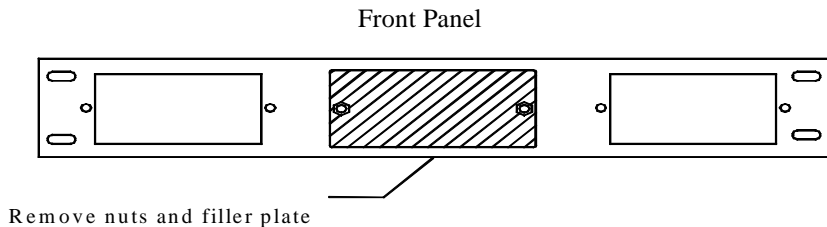

Figure 12. *Filler plate for middle IM-16 slot*
2. If you are replacing an IM-16, skip to the next step. If you are adding a new IM-16, you must first remove the front and rear filler plates from the RIM chassis for the slot where you want to place the IM-16. The filler plate must be removed from inside of the panel. Remove the two hex nuts used to secure the front filler plate. See Figure 12. Also, remove the two phillips screws to remove the rear filler plate.